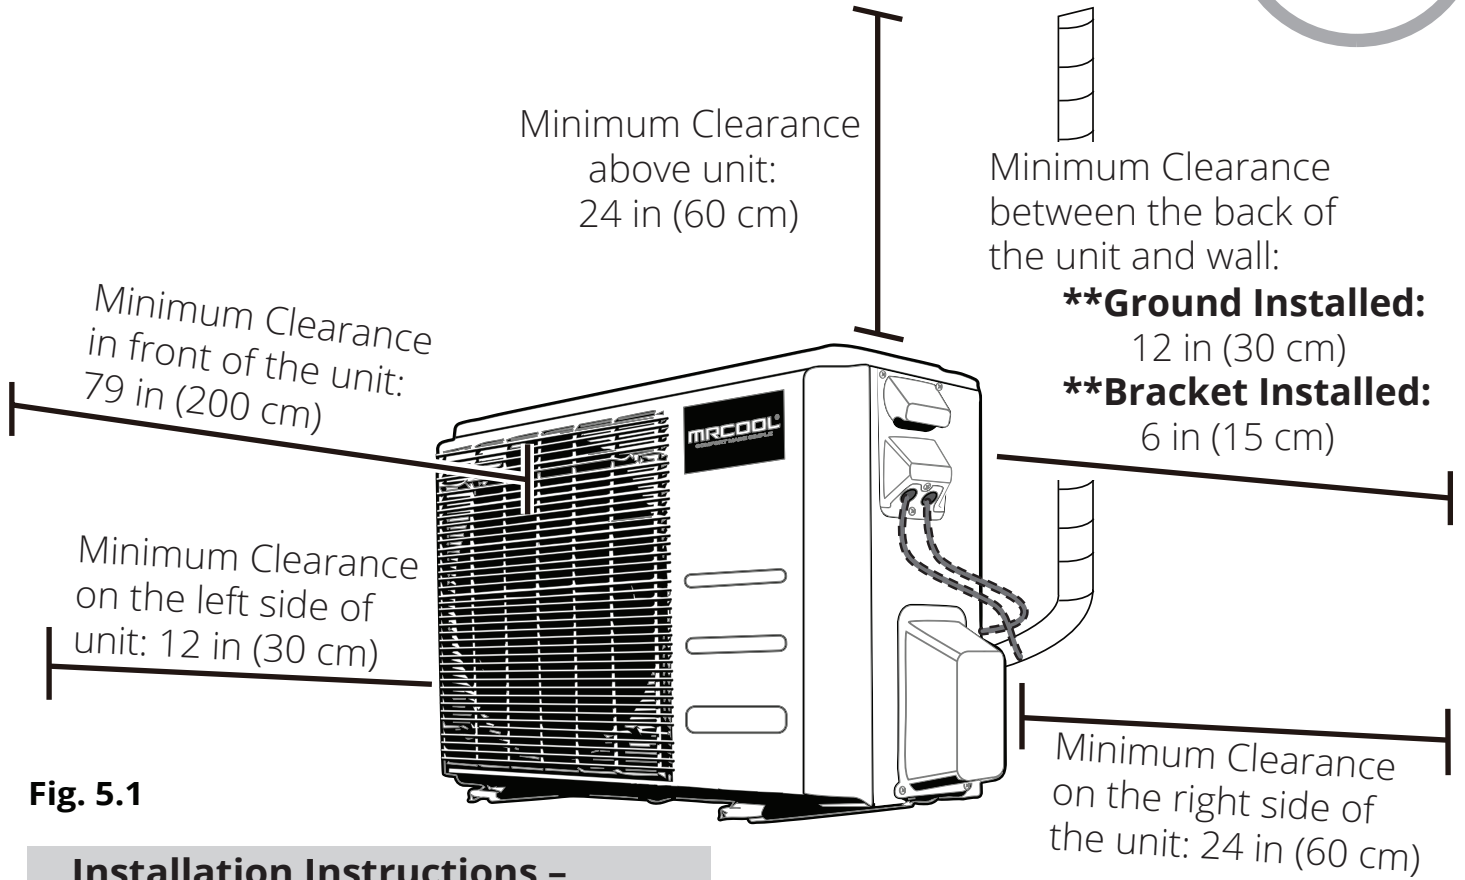

Fig. 5.1
- ✓ Meets all spatial requirements shown in the illustration above (Fig. 5.1)